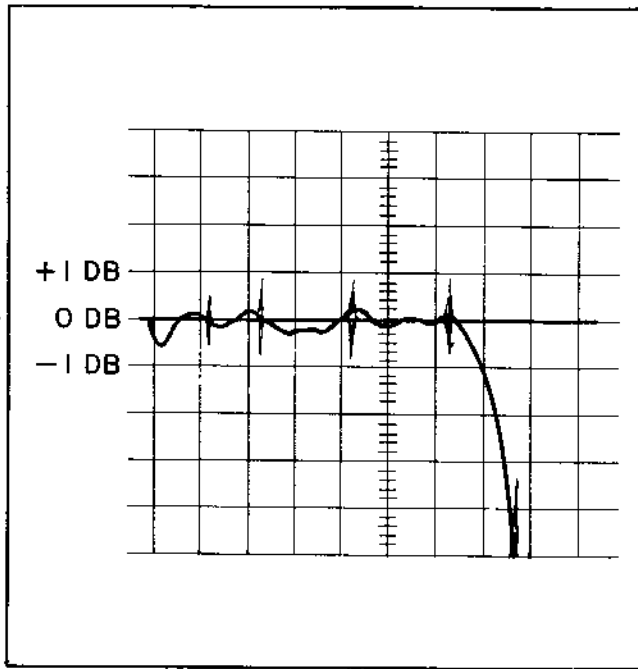

Figure 5-9. Frequency Response Calibration of -hp-461A, Markers at 25, 50, 100, 150 and 200 MHz
j. Adjust coils L2 thru L6 for optimum flatness from 1 KHz to 150MHz. (Refer to Figure 5-9.)